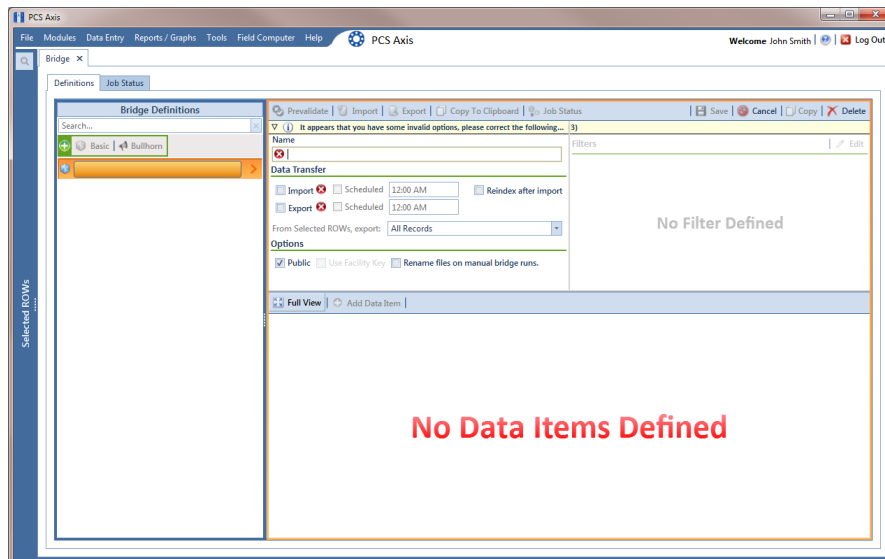

Figure 10-27. Basic Bridge Definition
- 3 Click  **Basic** to open the basic definition panel (Figure 10-27).